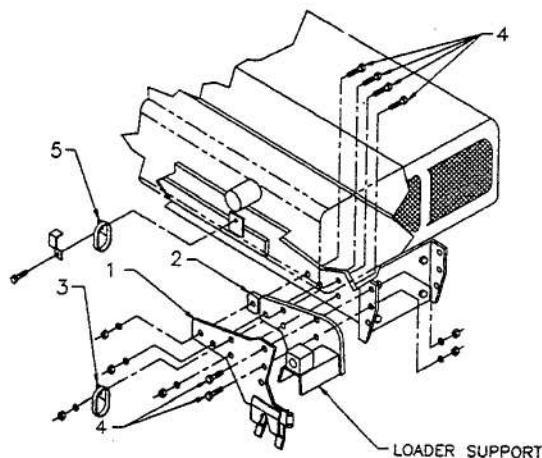

FIGURE 9
Install front right hand attaching plate (fig.9, item 1) with small shim 1/2" thick (fig.9, item 2) and hose support (fig.9, item 3) at indicated positions using six bolts M14 X 50 mm (fig.9, item 4) with lockwashers and nuts. Do not tighten yet. For hose support (fig.9, item 5) use bolt and hose support of the tractor, under the oil filter.